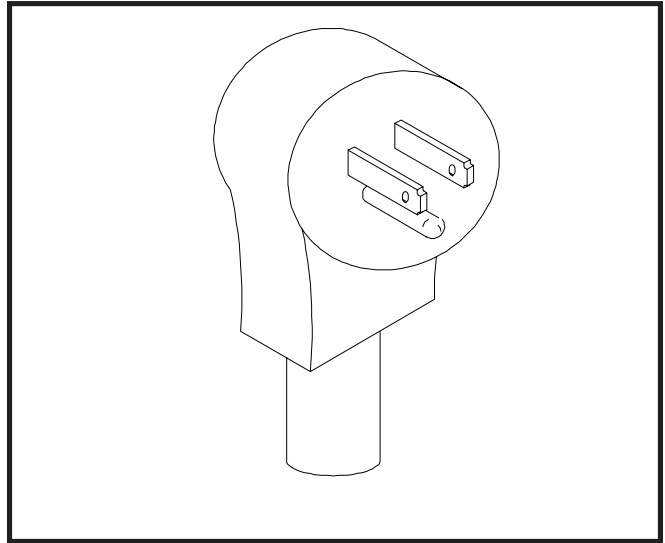

Figure 9
- F. Connect the power cord. The plug is designed for 115 volt/15 amp duty. The unit must be connected to a properly grounded receptacle. The electrical cord furnished as part of the freezer has a three prong grounding type plug (Fig.9). The use of an extension cord is not recommended. If one must be used, use one with a wire, size 12 gauge or heavier, with a ground. Do not use an adaptor to avoid grounding equipment.